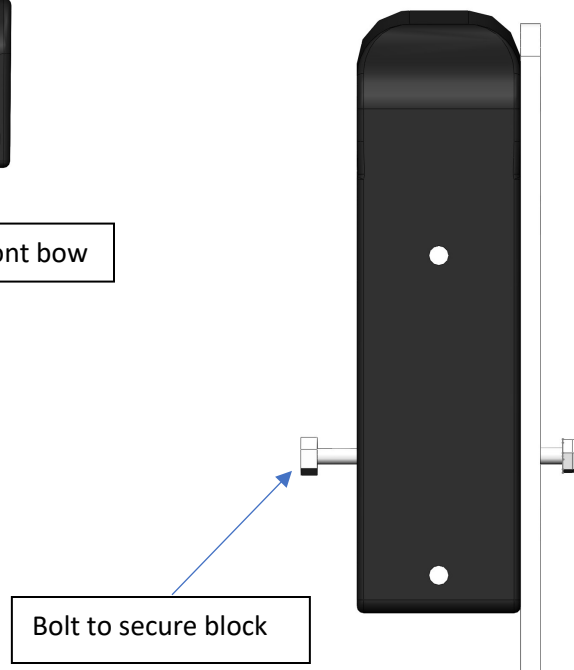

Figure 4: Front Block Lower Support Bolt
3. A further long bolt should be fixed through the block and deflector in the slot where the bottom cable runs. Fix this bolt between the 2 cables securing the lower part of the block to the deflector. Doing this ensures the sides of the tarp are tight when the tarp is out. This also helps prevent the lower part of the front block from flexing, which can lead to cracking over time. (Figure 4) shows side view of the bolt through the block to secure it (6mm bolt and nylon lock nut).